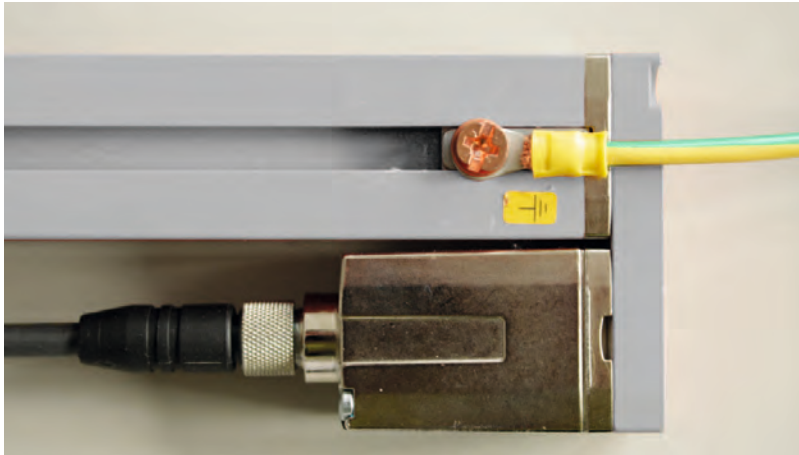

Figure 7.1: Connecting the ground potential to the light curtain
- ✚ Connect the transmitter housing **and** receiver housing of the light curtain to the protective conductor on the FE machine star point via the PE screw on the grounding slot nut (see figure 7.1).